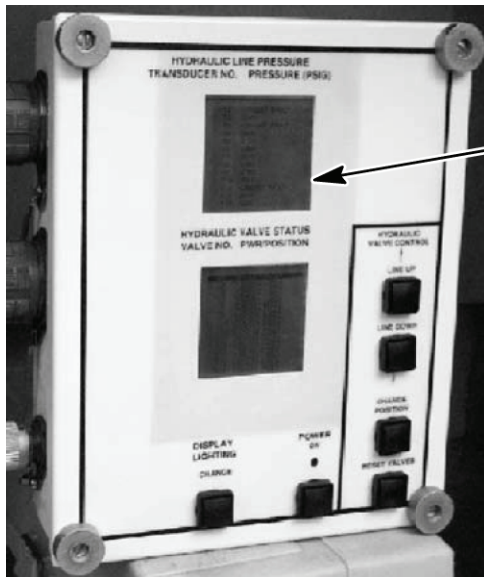
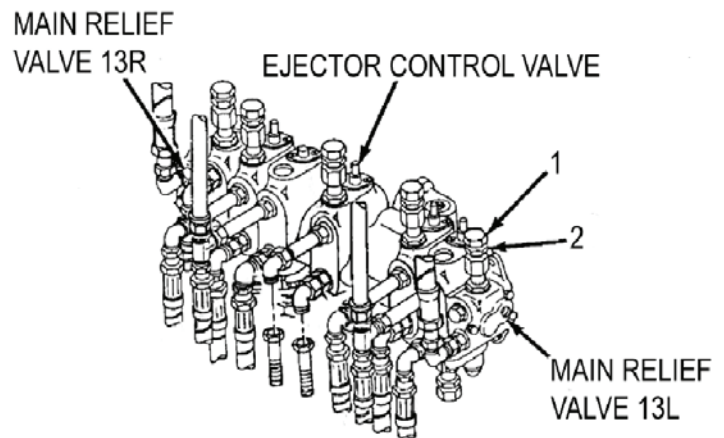

Figure 11. HDC Control Box
Figure 12. Main Relief Valve 13L and 13R
- With the SPRUNG/UNSPRUNG lever still in SPRUNG, have assistant start engine and move left-hand SUSPENSION CONTROL lever to RAISE, while at the same time, holding EJECTOR CONTROL lever in BACK. Read transducer T-4 hydraulic pressure on the HDC display (Figure 11, item 1). Adjust the main relief valve 13L by loosening jam nut (Figure 12, item 2) and rotating adjustment screw (Figure 12, item 1) clockwise to increase pressure; counterclockwise to decrease pressure. When hydraulic pressure is within limits, tighten jam nut (Figure 12, item 2).